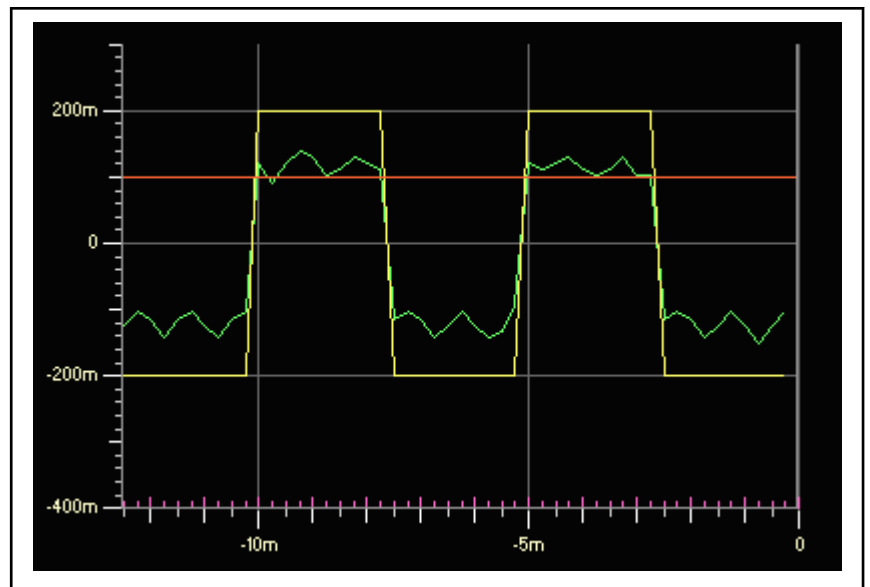
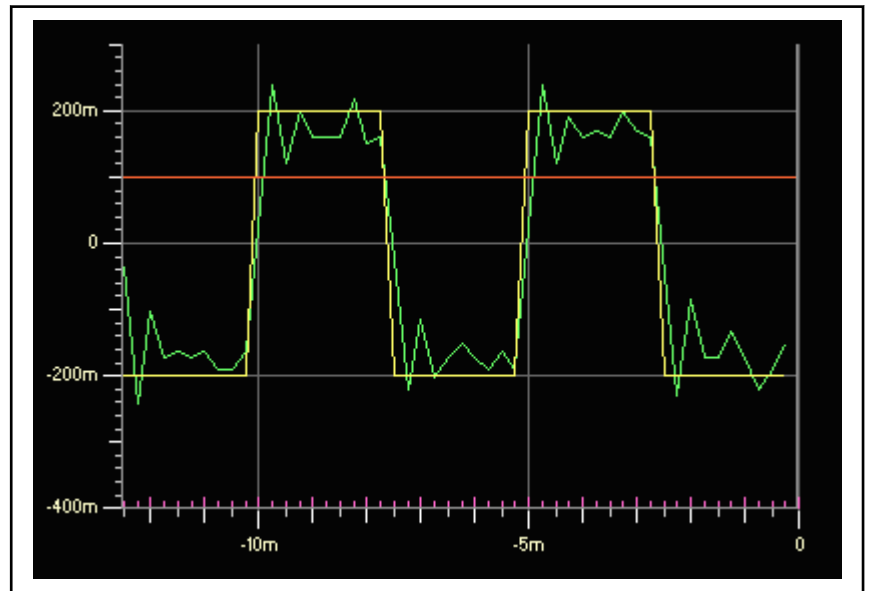

Fig. 4-54: Current loop tuning procedure - adjusting K_P
Fig. 4-55: Current loop tuning procedure - adjusting K_P more
8. Increase the `CC_KP` parameter in the NYCeTuner until either the drive current response is satisfactory or the drive current response does not improve any more (see fig. 4-54 "Current loop tuning procedure - adjusting KP" on page 179 and fig. 4-55 "Current loop tuning procedure - adjusting KP more" on page 179). The yellow curve represents controller out, the green curve represents drive current.